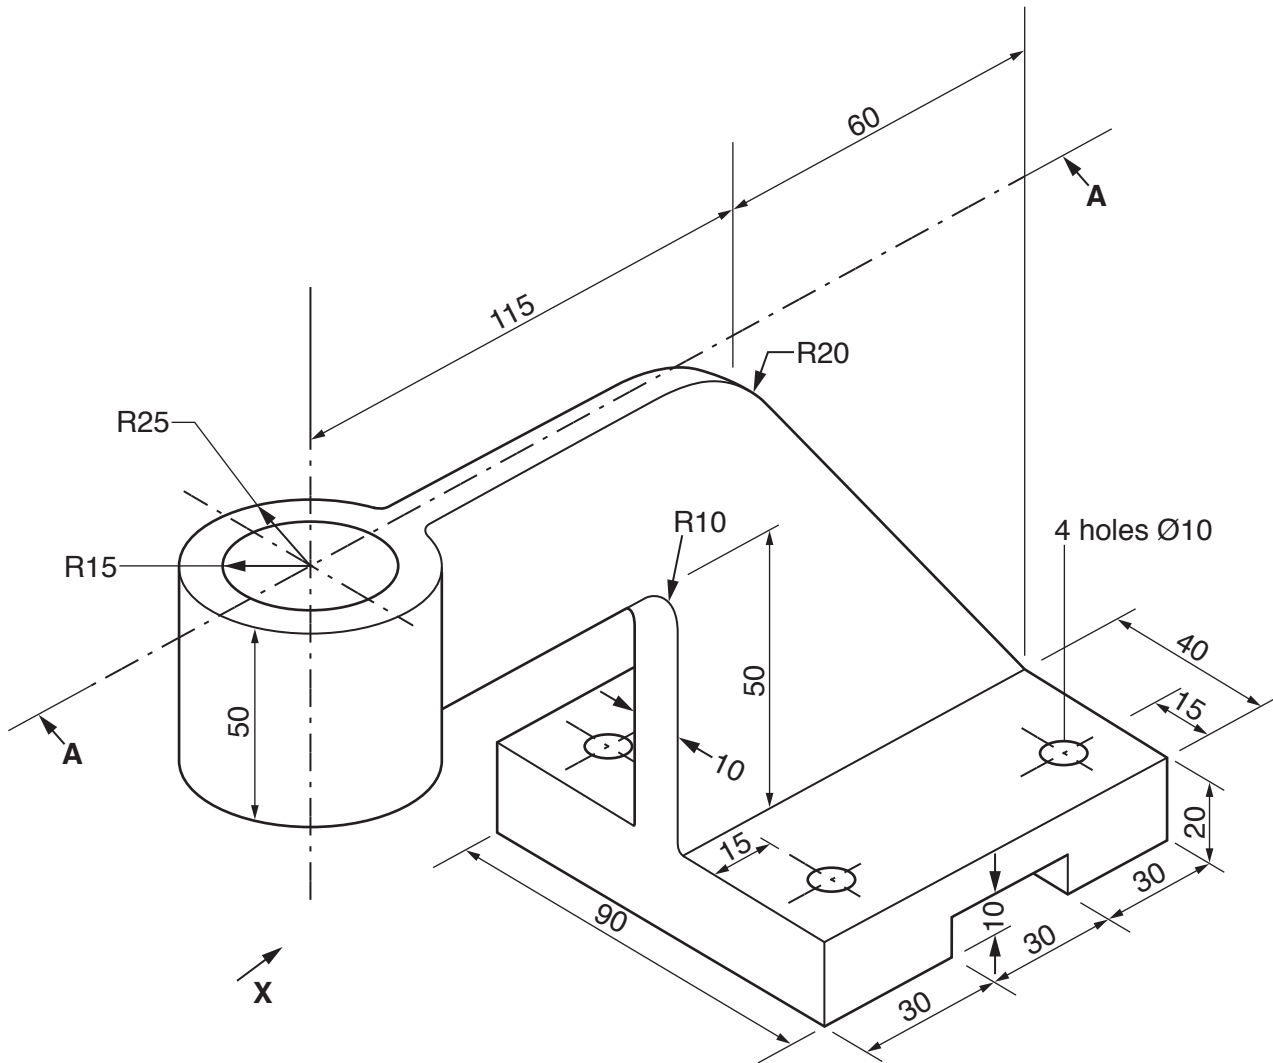

Fig. 6
- 8 Fig. 6 shows an isometric drawing of a bracket.